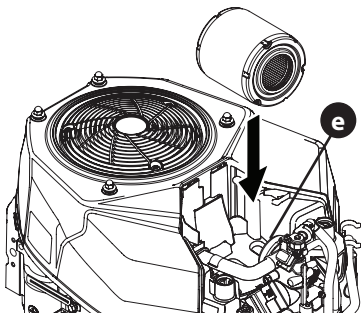

Figure 12
6. Attach the new air filter with foam element, aligning the hole in the air filter with the intake manifold (e). (Figure 12).